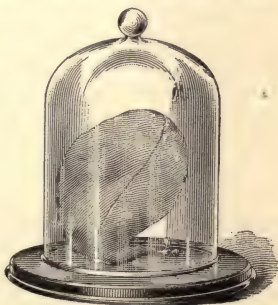

FIG. 14.
41. The most striking feature of all gases is their great expansibility. *If we inject a quantity of gas, however small, into a vessel, it will expand and fill that vessel.* If a bladder or football be partly filled with air and placed under a glass jar (called a receiver), from which the air has been exhausted, the bladder or football will immediately expand, as shown in Fig. 14. The force that a gas always exerts when confined in a limited